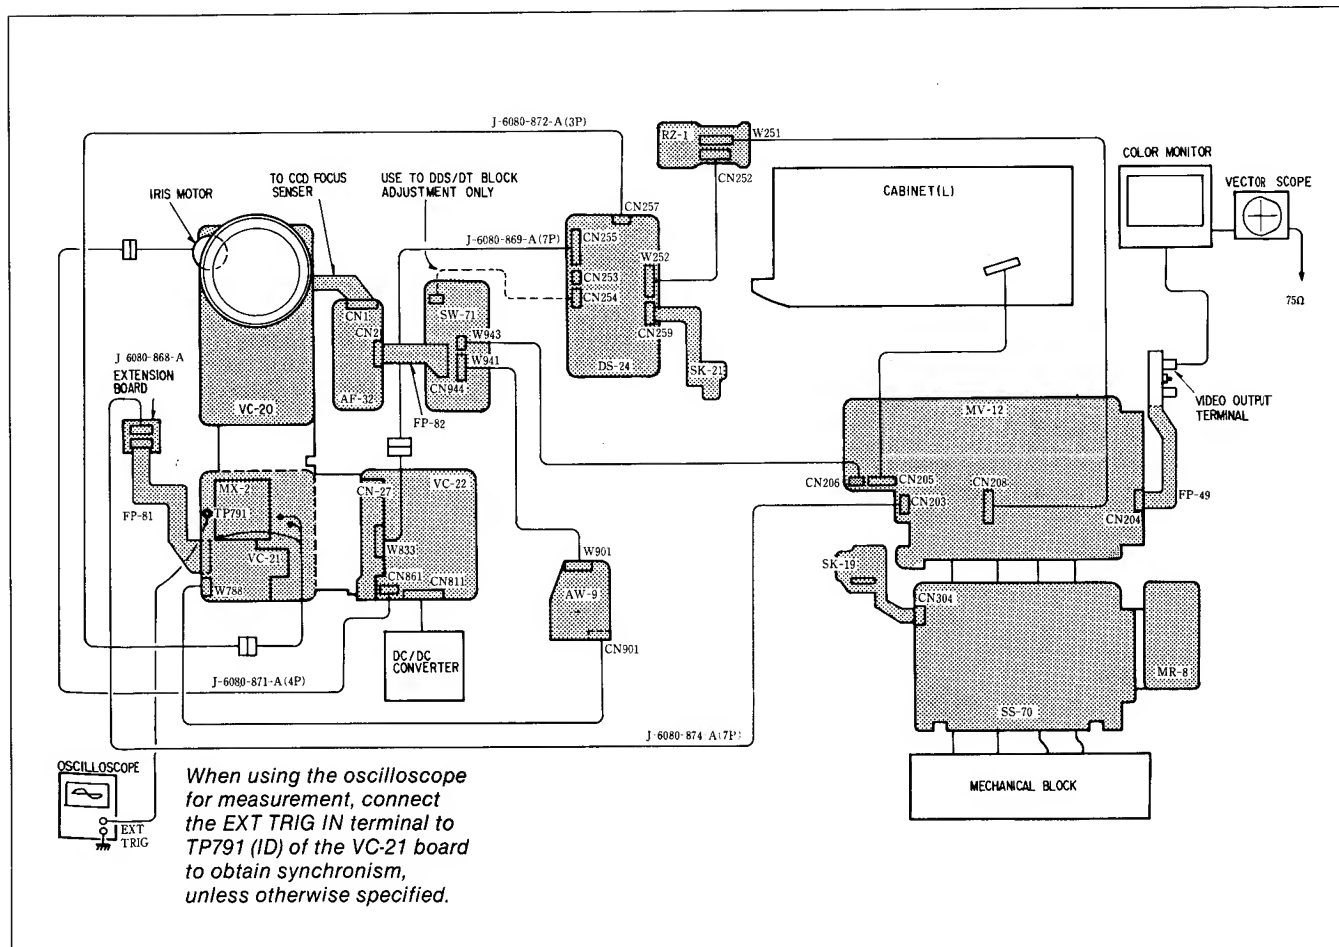

Fig. 7-3.
- 1) Remove the front cabinet, rear cabinet, cabinet (R) and cabinet (L).
- 4) Connect the extension cable as shown in Fig. 7-3.